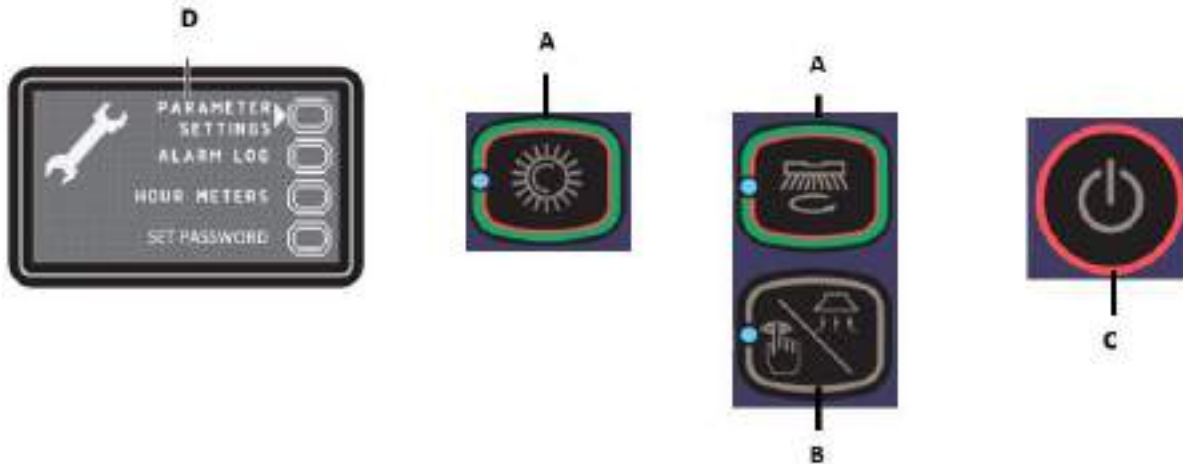

Figure 1
Display, Main Screen (D, Figure 1)
- To return to the main screen (D, Figure 1), press the One-Touch button  to select the option "EXIT", then press the vacuum button .